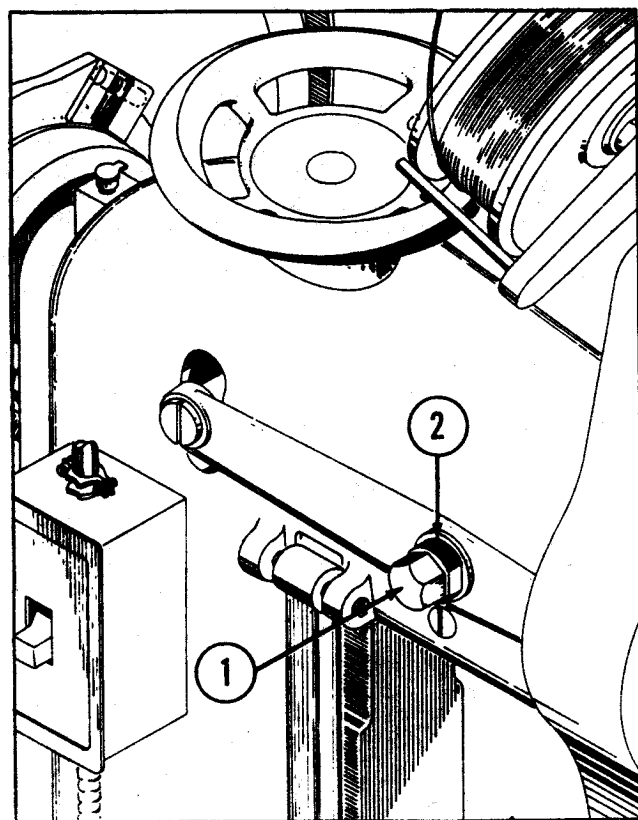

Figure 8—Adjusting Length of Both Legs of Staple
a. Loosen (do not remove) the two wire feed adjustment rack screws (1) permitting the adjustment rack (2) to be moved up or down.
b. If shorter left leg is required, move adjustment rack (2) slightly up; if longer left leg is required, move adjustment rack slightly down. (Con't. on page 10.)
c. After positioning adjustment rack, tighten adjustment rack screws (1), turn over machine a few revolutions and check staples. If staple is still off center, repeat steps a and b until perfect staple is obtained. (With a little experience, the operator will soon learn how much to raise or lower the adjustment rack to obtain the desired length of staple leg.)
d. After final adjustment has been made, securely tighten adjustment rack screws (1).
7. HOW TO ADJUST LENGTH OF BOTH LEGS OF STAPLE (See Fig. 8.)